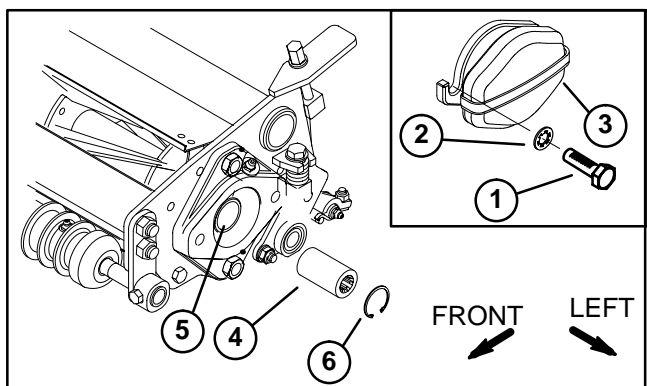

Figure 22
1. To mount a cutting unit in the right front position proceed as follows(Fig. 22):